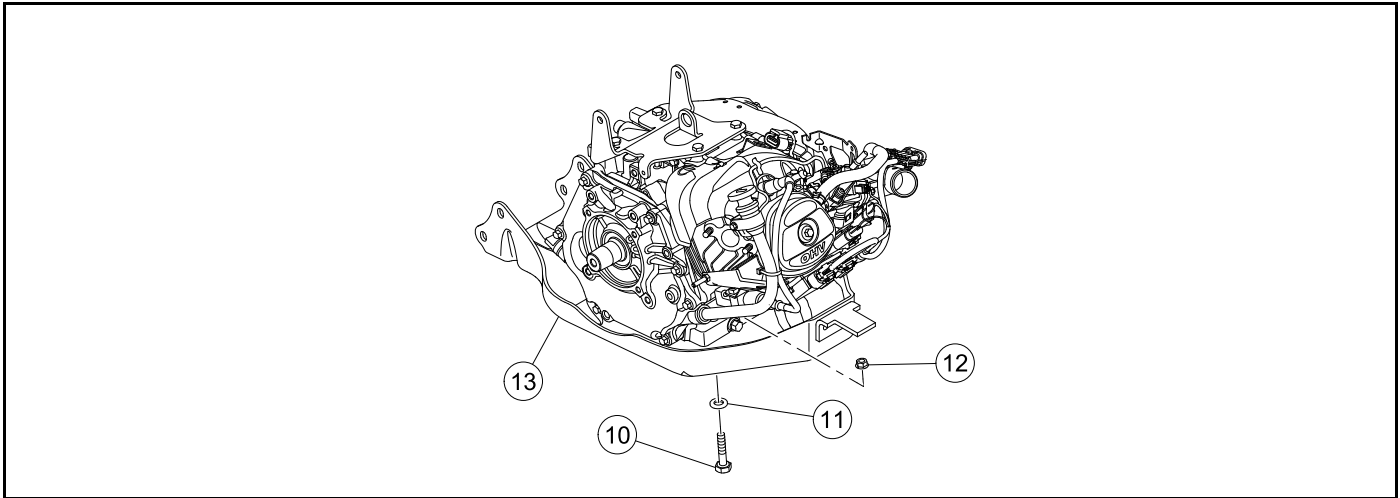

Figure 20-4 Engine Pan Removal
19. Remove the exhaust weldment (9).
20. Remove the bolts (10), washers (11), and nuts (12) (Figure 20-4, Page 20-4).